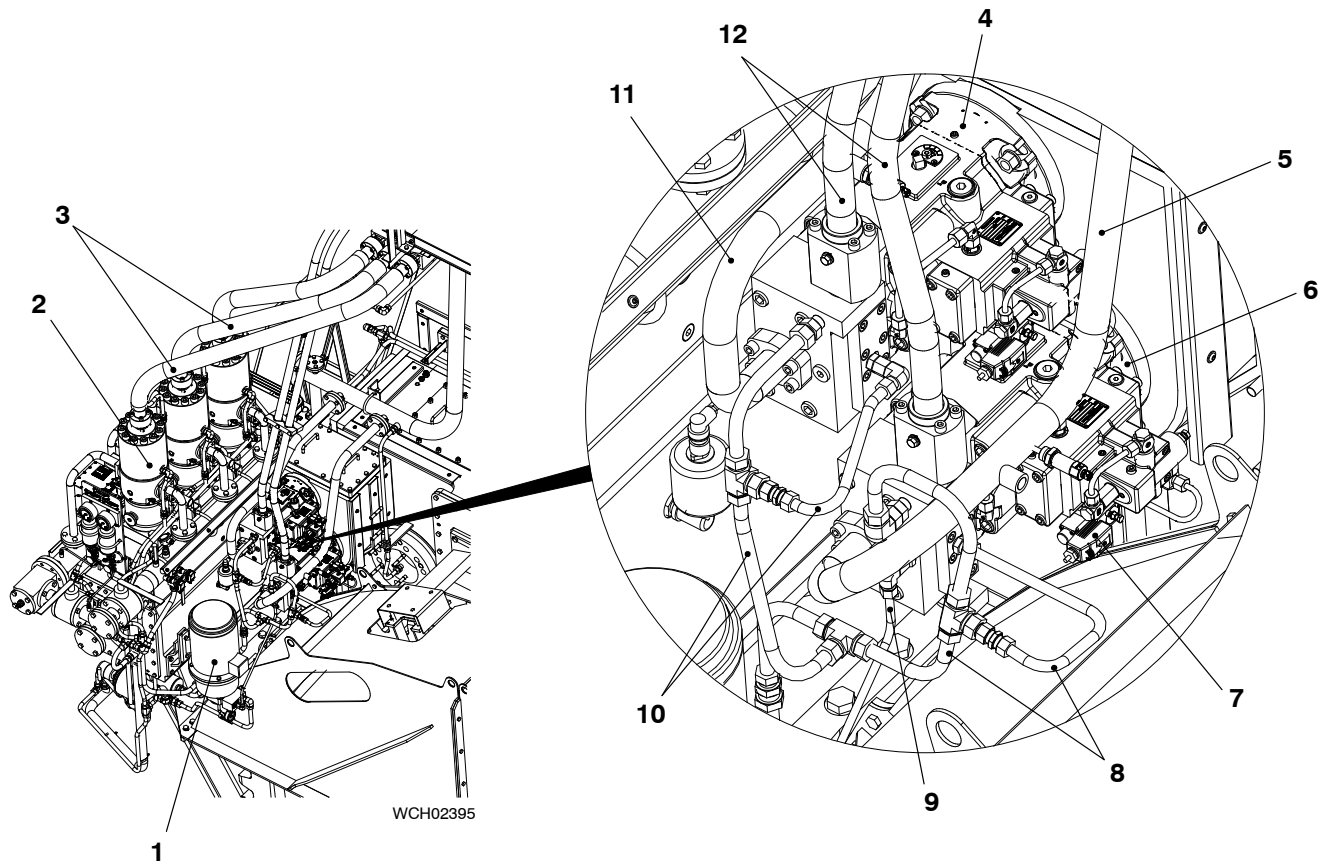

Fig. 10
- 1) Attach the oil inlet pipes (11, Fig. 10) to the servo oil pumps (4, 6).